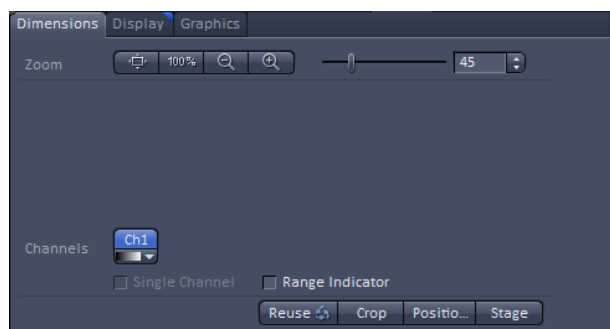

Fig. 183 Positions button in the Dimensions control tab of the 2D view
- Activate the **Positions** button in the **Dimensions** control tab (Fig. 183).